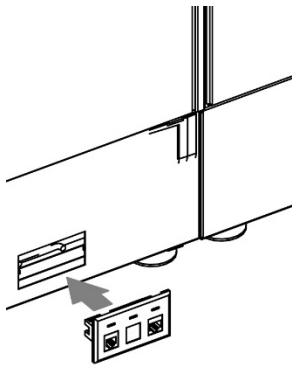

Figure 7
- 9. Insert the communication kit into the opening (Figure 7).